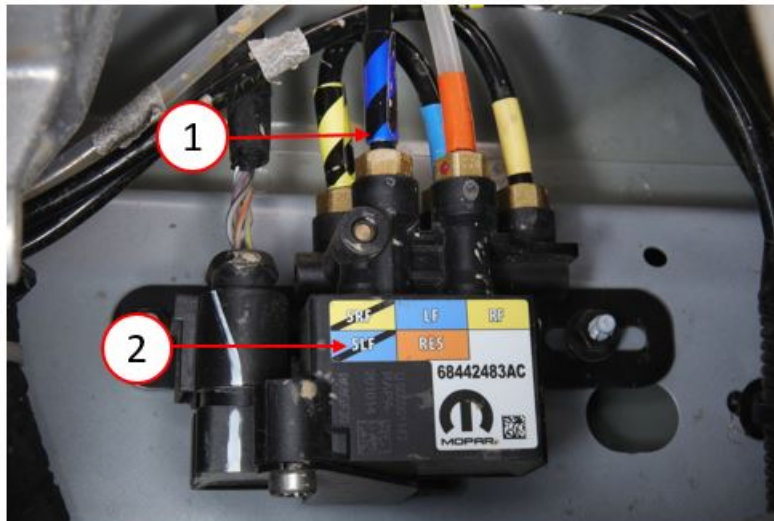

Fig. 3
20. Raise the vehicle on the hoist. Disconnect the air lines that has blue and black strips (SLF) from the "Fast Down Leveling Valve" and blow compressed air into the air line (Fig. 3) . The valve is located by the rear axle.